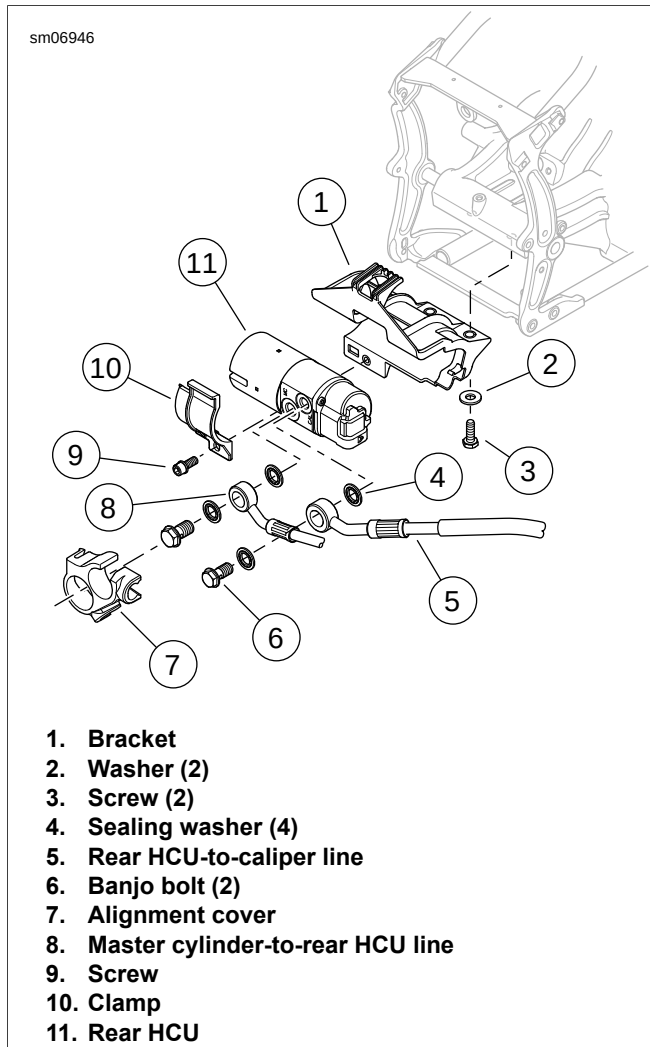
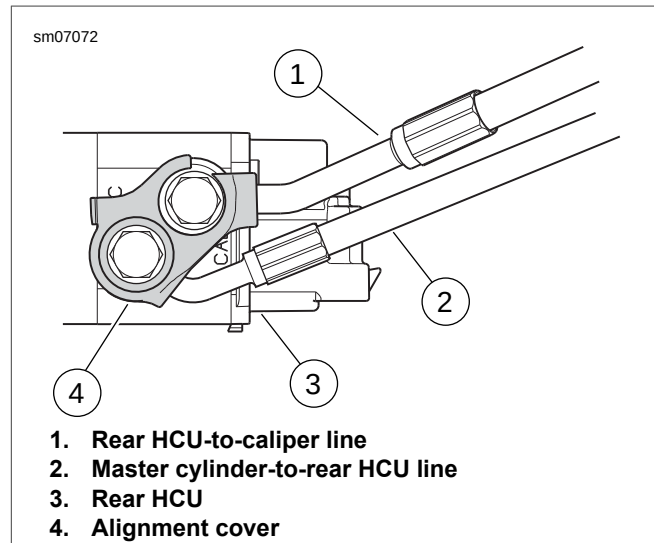

Figure C-5. Rear Hydraulic Control Unit (HCU)
Figure C-6. Rear HCU Fittings Properly Installed
4. See Figure C-5. Remove banjo bolts (6) to release brake lines from rear HCU. Discard sealing washers.
5. Remove screw (9), clamp (10), and rear HCU (11).
1. See Figure C-5. If bracket (1) was removed, install bracket with washers (2) and screws (3). Tighten screws to 36-72 **in-lbs** (5.0-10.0 Nm).
2. Install rear HCU, and secure with clamp (10) and screw (9). Tighten screw to 24-42 **in-lbs** (2.7-4.7 Nm).
3. Attach electrical connector to rear HCU (11).
4. Loosely install banjo bolts (6) with **new** sealing washers (5).
5. Install alignment cover (7) over banjo bolts.
7. See Figure C-6. Verify both brake lines at rear HCU are properly positioned.